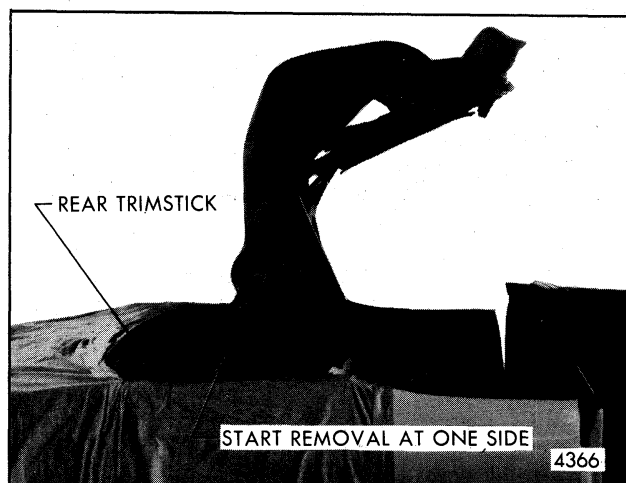

Fig. 8-89-Lifting Rear Trimstick from Body
- b. Lift trimstick, center bow and gutter assembly forward and upward as shown in Figure 8-89.